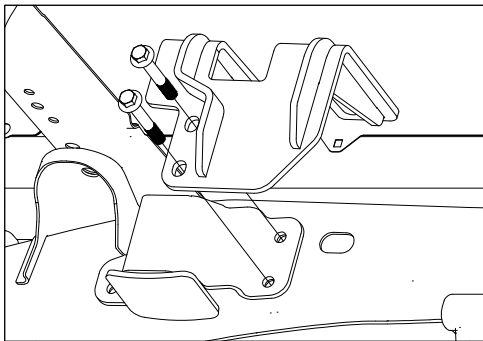

Figure F5: View looking into driver side wheel well.
**3b. Install the front side plates (with overload brackets).** Locate the two front side plates and four 12mm x 80mm flange head bolts. Pass the top flange of the front side plates over the frame and then align the holes in the brackets with the holes in the overload bracket still attached to the frame. Install a 12mm flange head bolt into each hole in the brackets, see Figure F5. Hand tighten hardware only at this time.